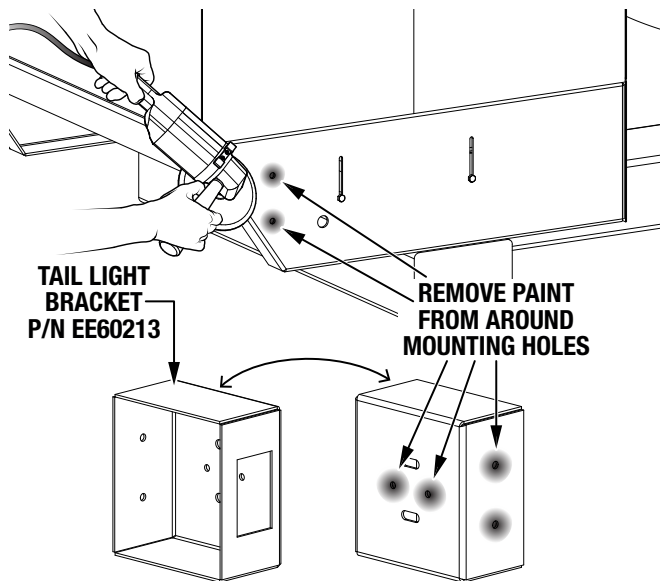

Figure 3. Paint Removal (Concrete Mixers)
- Using a grinder, remove the powder coat paint around the newly drilled 17/64-inch holes and the two corresponding mounting holes in the side of the tail light bracket (P/N EE60213). See Figure 3.
- Using a grinder, remove the powder coat paint around the two tail light mounting holes in the back of the tail light bracket (P/N EE60213). See Figure 3.